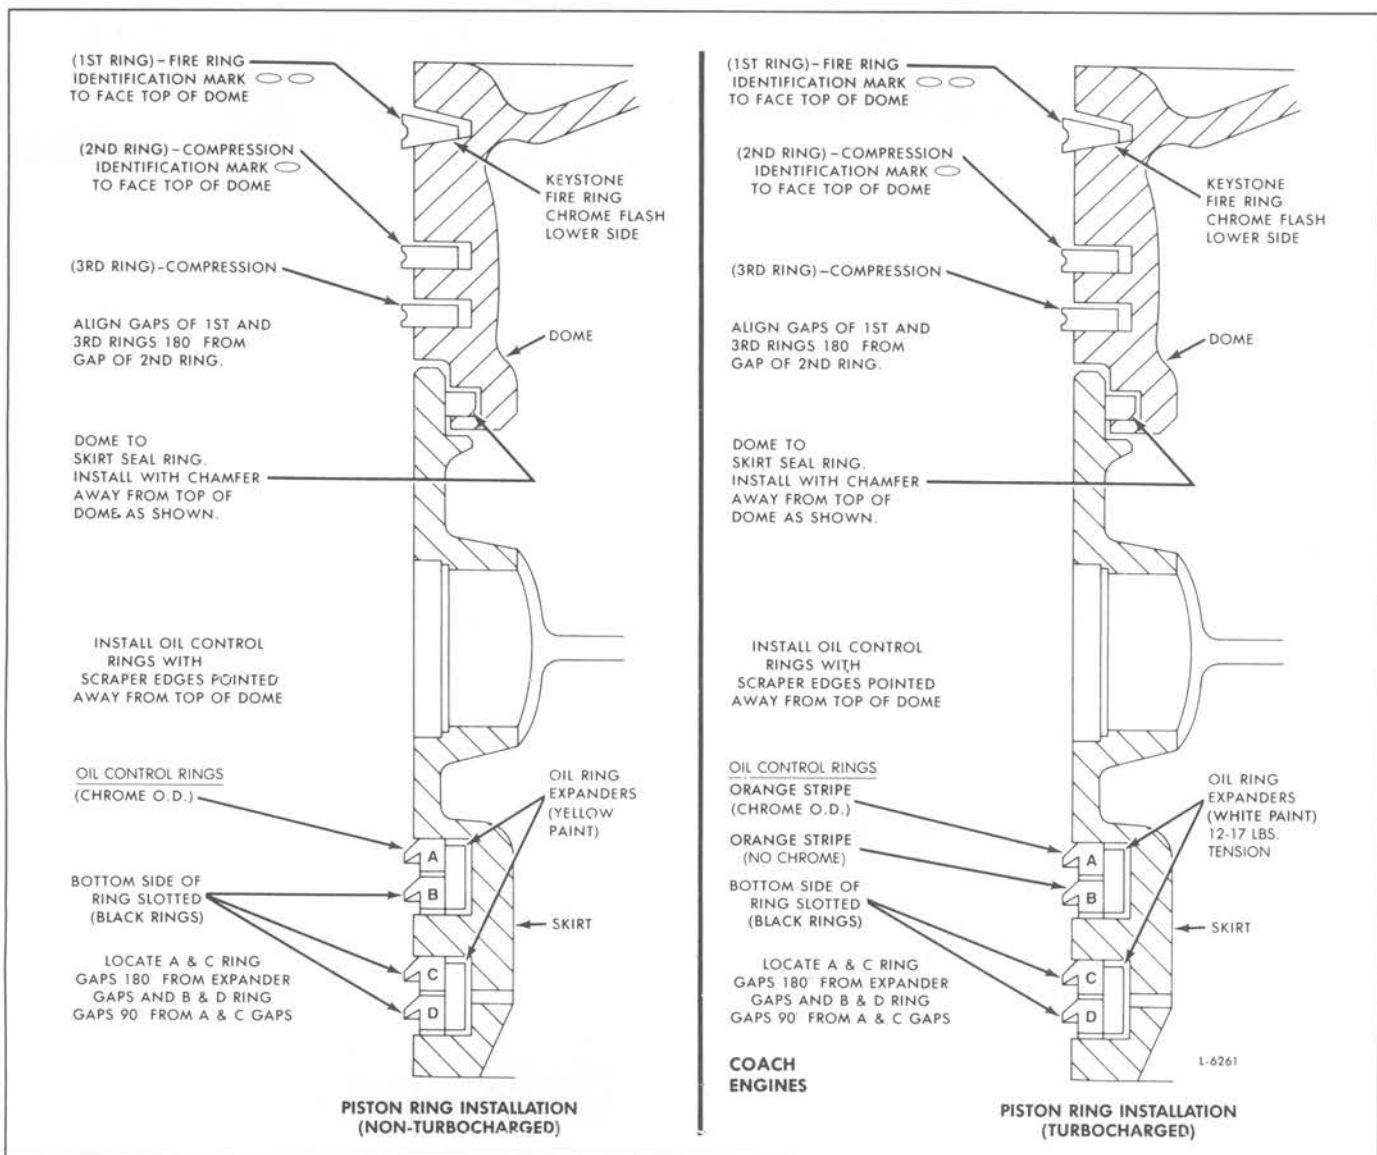

Fig. 18 - Piston Ring Installation Instructions
Refer to Fig. 18, 19 or 20 for the type and location and install the oil rings as follows:
2. Lubricate the oil control rings with *STP*, or equivalent and install the rings by hand. Start with the upper half of the top oil ring and align the gaps as indicated in Fig. 18, 19 or 20.